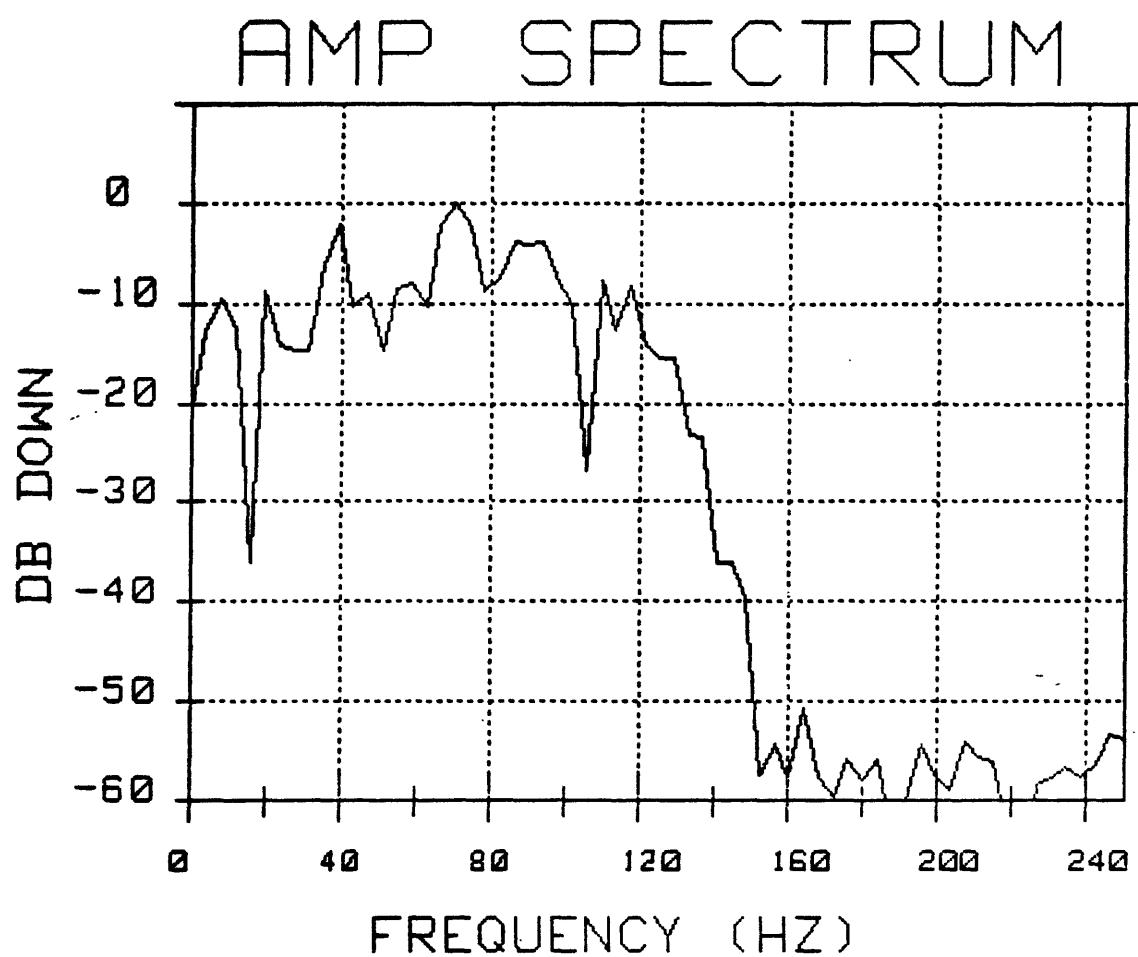

Figure 2D. Amplitude spectrum of data from figure 2C.
6. Plot amplitude spectrum (SFK S9) and phase spectrum (SFK S10). The amplitude and phase spectra (figs. 2D and E) will be displayed on the CRT. After a five-second wait, the user may obtain a hard copy of the plot on the internal thermal printer.